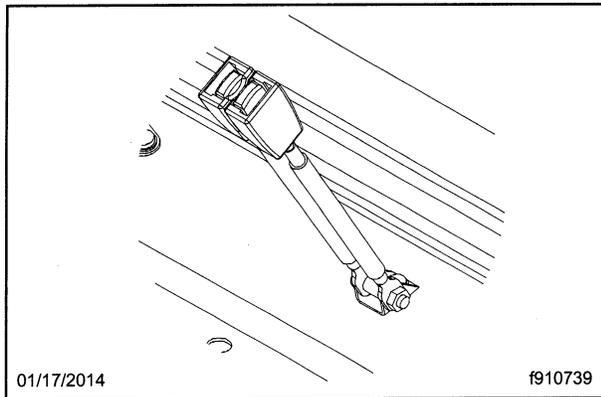
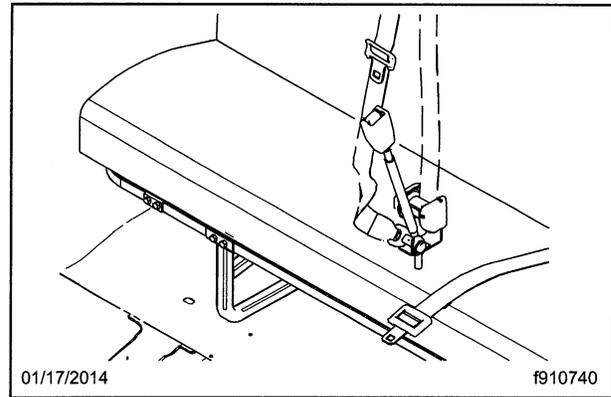

Fig. 12, Floor-Bracket-Mounted Buckle, Dual Buckle Mounting
Fig. 13, Floor-Bracket-Mounted Buckle, Retractor and Buckle Mounting
- Bench seats may have floor-mounted buckles at the ends, and floor-bracket-mounted buckles in the middle. One or two buckles may be mounted to each floor bracket. See **Fig. 12** and **Fig. 13**.
2. Remove the capscrew that attaches the buckle to the floor bracket (**Fig. 12** or **Fig. 13**). Remove and discard the buckle.